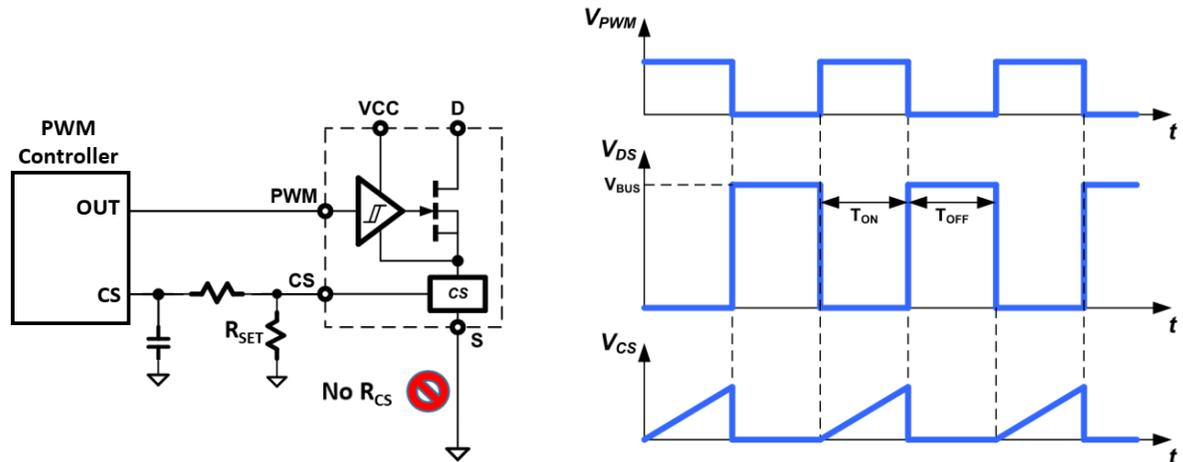

Fig. 25. Current sensing circuit and timing diagram
For many applications it is necessary to sense the cycle-by-cycle current flowing through the power FET. Existing current sensing solutions include placing a current sensing resistor in between the source of the power FET and P_{GND}. This resistor method increases system conduction power losses, creates a hotspot on the PCB, and lowers overall system efficiency. To eliminate this external resistor and hotspot, and increase system efficiency, this IC includes GaNSense™ Technology for integrated and accurate loss-less current sensing. The current flowing through the internal GaN power FET is sensed internally and then converted to a current at the current sensing output pin (CS). An external resistor (R_{SET}) is connected from the CS pin to the S pin and is used to set the amplitude of the CS pin voltage signal (Fig. 25). This allows for the CS pin signal to be programmed to work with different controllers with different current sensing input thresholds.